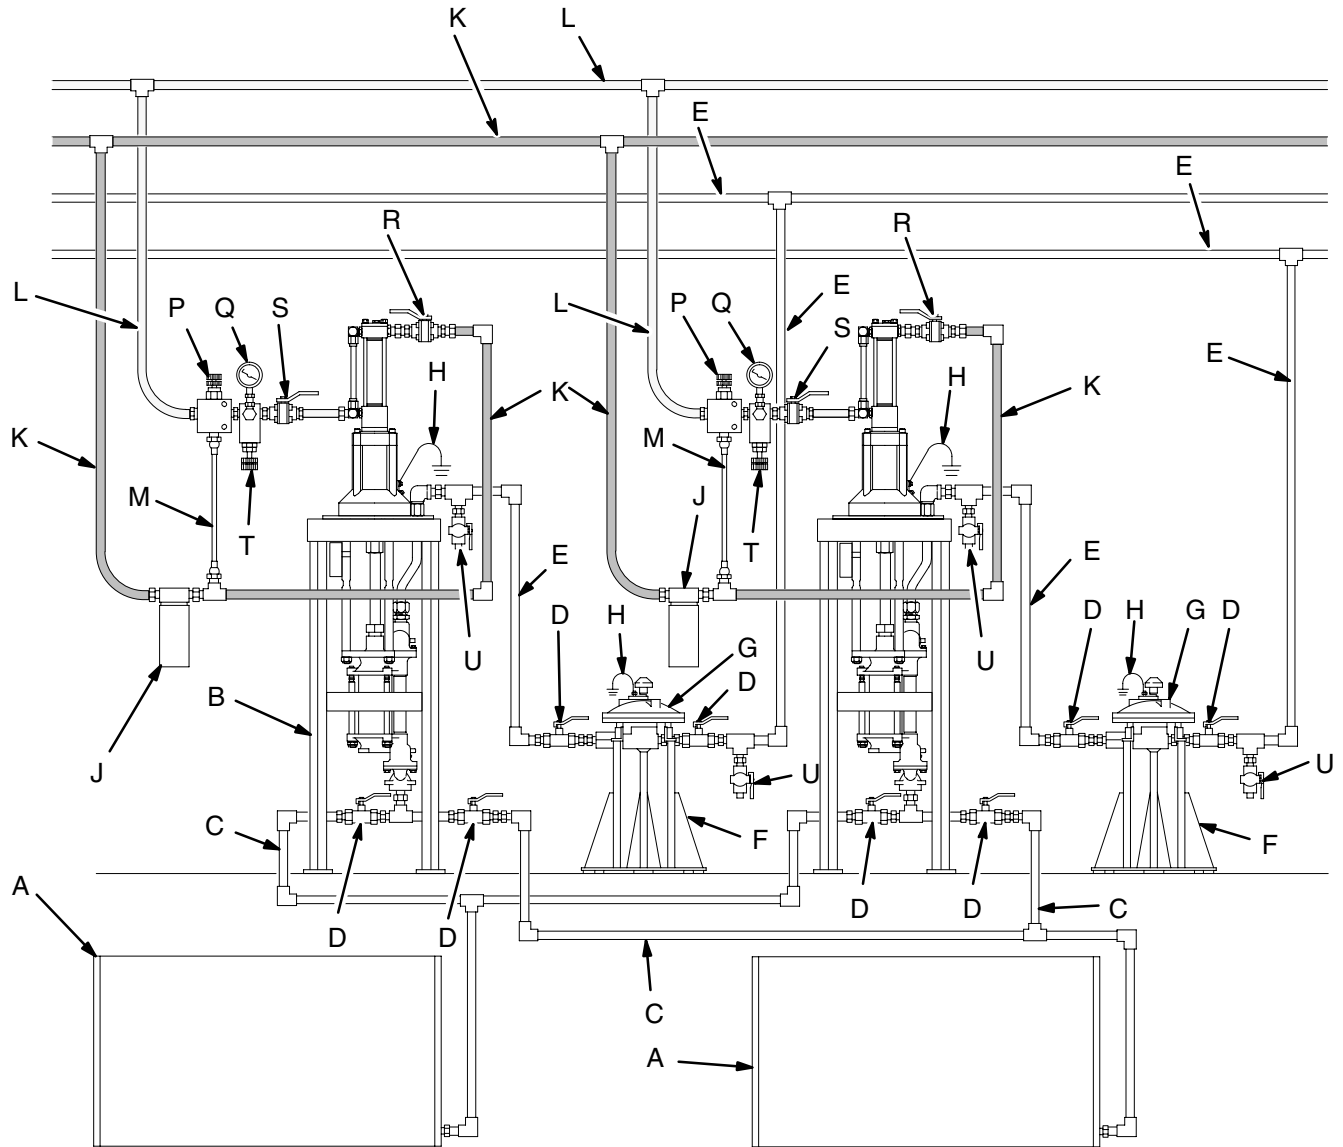

Fig. 5
**NOTE:** The motor's hydraulic inlet is 3/4 in., 37° flare. Use a minimum 13 mm (1/2 in.) ID hydraulic supply line (L).
1. The supply line shutoff valve (S) isolates the motor when servicing the system. See Fig. 5.
2. The hydraulic fluid pressure gauge (Q) monitors the hydraulic oil pressure to the motor. This helps avoid overpressurizing the motor or displacement pump.
3. The pressure- and temperature-compensated flow control valve (T) prevents the motor from running too fast, which can damage it.
4. The pressure reducing valve (P) which has a drain line (M) running to the return line (K), controls the hydraulic pressure to the motor.